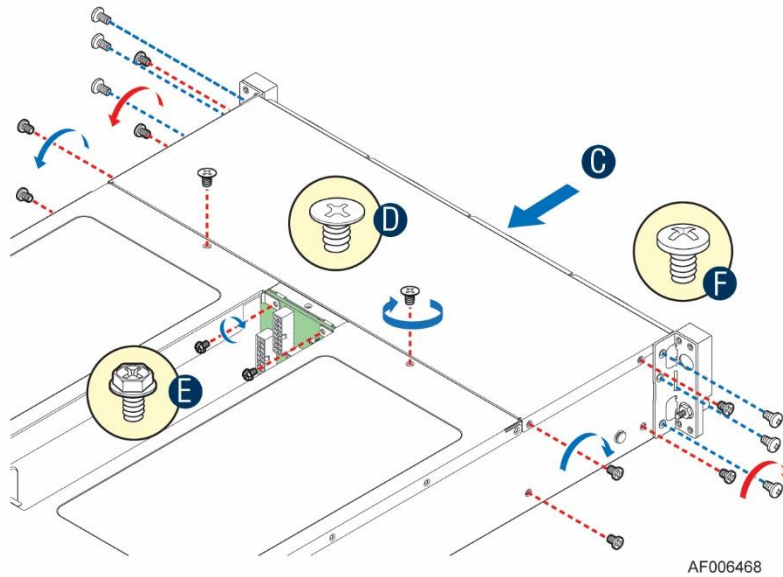

Figure 47. Installing the drive cage to the chassis
2. Install the drive cage to the chassis (C) and fix the drive cage with the screws (D, E and F) as pictured in Figure 47.